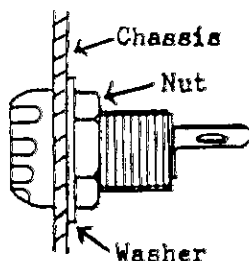

Fig. 1
- (b) The input jack should be installed as illustrated below in Fig. 1.